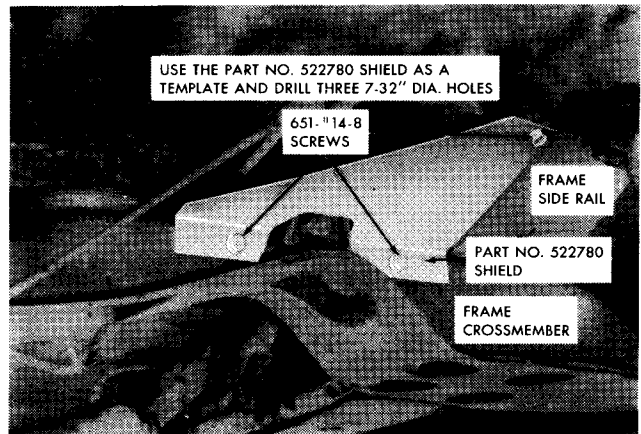

FIG. 3
5. Hold the brake pedal splash shield, Part No. 522780, in position at the right angle made by the front face of the crossmember and the frame side rail, and center punch the frame members at the location of the three holes in the shield. Drill a 7/32" diameter hole in the frame at each of these three points. See Fig. 3. Secure the splash shield in position with the three self-tapping metal screws, Part No. 651-#14-8.